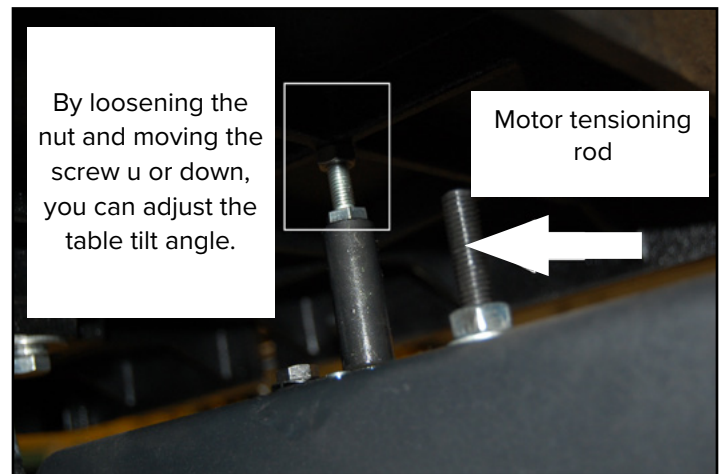

Figure 9: Adjusting the table Stop Screw.
- The table can be set at 90° to the saw blade sides by adjusting the table stop screw Fig.9 located under the table. This screw rests on the top of the quick-release adjustment stop Fig.9 .
- Loosen the locking nut Fig.9.
- Adjust the table stop screw Fig.9 until the table and blade are set at 90°.
- Retighten the locking nut Fig.9, ensuring the setting is maintained.